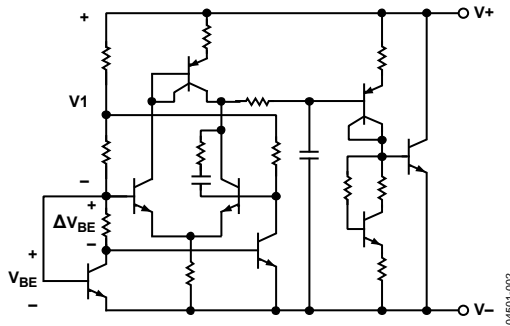

Figure 18. Circuit Schematic
The ADR520/ADR525/ADR530/ADR540/ADR550 use the band gap concept to produce a stable, low temperature coefficient voltage reference suitable for high accuracy data acquisition components and systems. The devices use the physical nature of a silicon transistor base-emitter voltage ( $V_{BE}$ ) in the forward-biased operating region. All such transistors have approximately a  $-2\text{ mV}/^\circ\text{C}$  temperature coefficient (TC), making them unsuitable for direct use as low temperature coefficient references. Extrapolation of the temperature characteristics of any one of these devices to absolute zero (with the collector current proportional to the absolute temperature), however, reveals that its  $V_{BE}$  approaches approximately the silicon band gap voltage. Thus, if a voltage develops with an opposing temperature coefficient to sum the  $V_{BE}$ , a zero temperature coefficient reference results. The ADR520/ADR525/ADR530/ADR540/ADR550 circuit shown in Figure 18 provides such a compensating voltage ( $V_1$ ) by driving two transistors at different current densities and amplifying the resultant  $V_{BE}$  difference ( $\Delta V_{BE}$ , which has a positive temperature coefficient). The sum of  $V_{BE}$  and  $V_1$  provides a stable voltage reference over temperature.